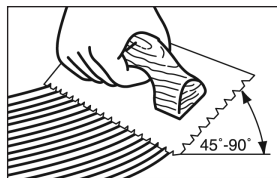

Figure 13
- Hold trowel at a minimum 45° angle (Figure 13) firmly against the subfloor.